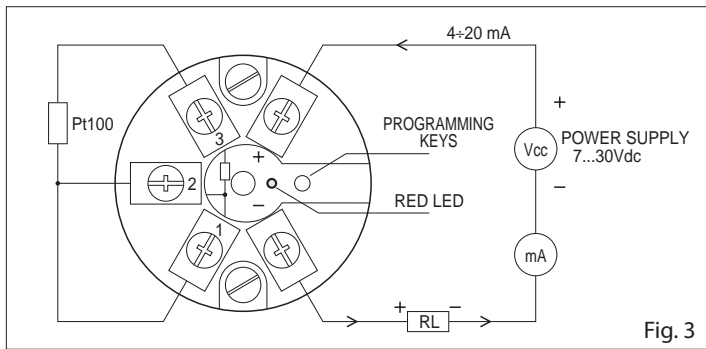

Fig. 3
1. Connect the transmitter as shown in Fig. 3 and set the Pt100 calibrator at the required temperature suitable for 4 mA (for example, assuming that you want to set the range -50...+200°C, you will set the calibrator to -50°C or equivalently you will connect a resistance of 80,31Ω between terminals 1 and 3 while 1 and 2 shorted).
Fig. 3 reports the connection diagrams for the transmitters in the current loop. In order to obtain the maximum precision, the connection to the Pt100 should be performed with 3 wires and with wires having the same diameter so to grant the same impedance in each connection. The symbol RL (load) represents any device in the current loop that is to say an indicator, a controller, a data logger or a recorder.